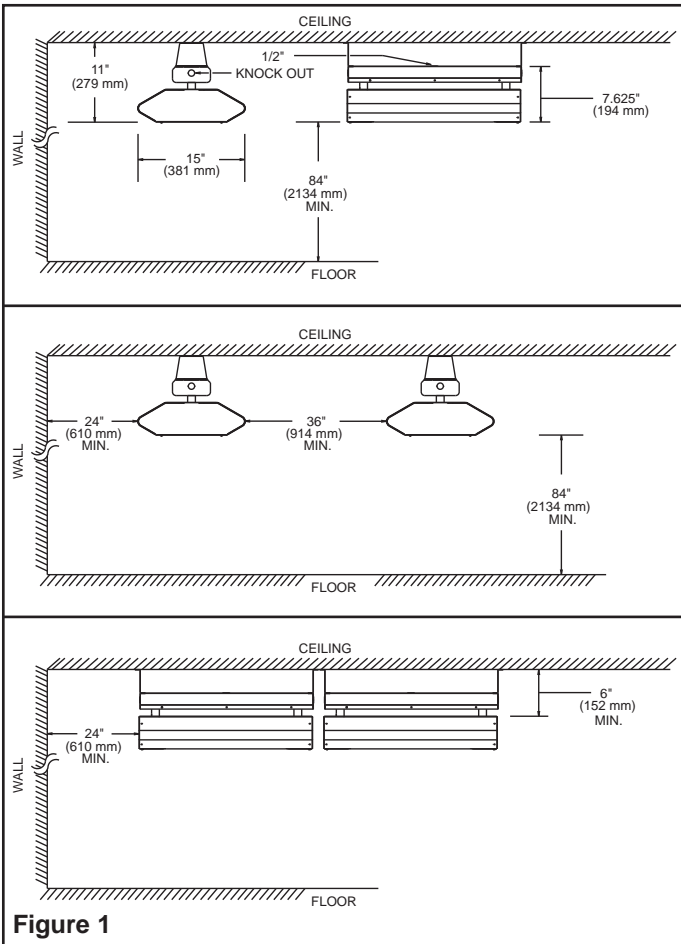

Figure 1
5. Minimum clearances, as specified in Figure 1, must be maintained. Keep combustible material, such as boxes, crates, etc., away from heater.
**Mounting Limitations** – Refer to Figure 1 for mounting limitations. Observe all minimum dimensions from ceiling, walls, floor, and combustible material.